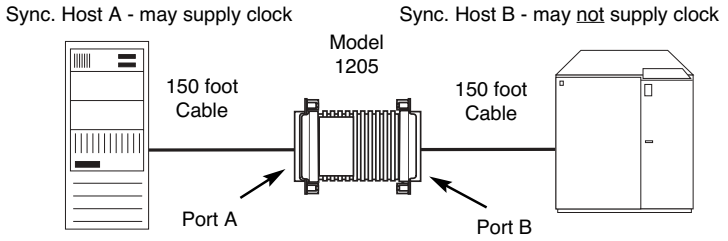

Figure 5. Maximum Allowable Cable Distances for the Model 1205
4. If neither host device has an EIA-530 port, you will need a multipair adapter cable* for each end of the Model 1205. The total cable length must not exceed 300 feet. See Figure 5 above.
5. Turn on both host devices. They should communicate normally as if connected by a simple cable. If they do not communicate properly, check the configuration of the Model 1205 and each host device (Who is supplying the clock?, etc.). If problems are still detected, call Patton Technical Support a: **(301) 975-1007**; **<http://www.patton.com>**; or, **support@patton.com**.
*Custom DB-25 to M/34 adapter cables are available from Patton Electronics at **(301) 975-1000**; **<http://www.patton.com>**; or, **support@patton.com**. See **Appendix B** for details.